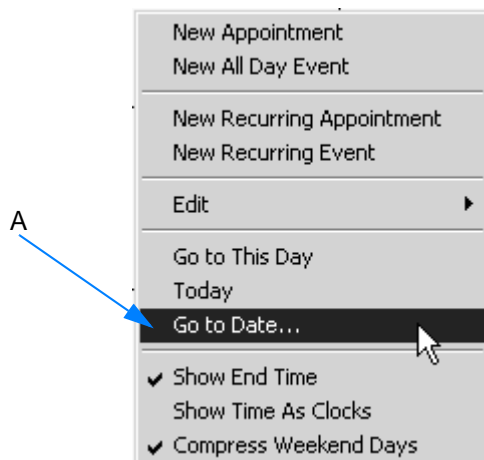
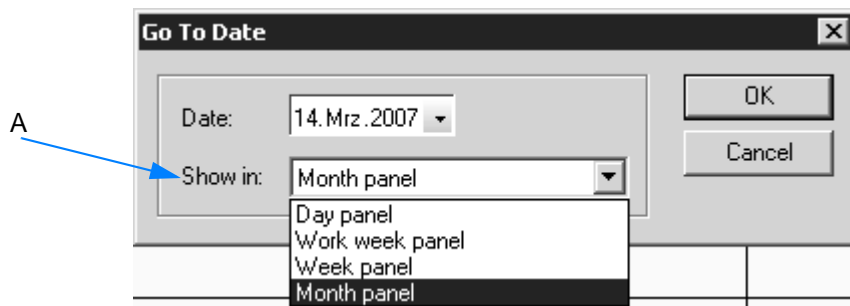

Figure 252: Planner - Pop-up menu
Figure 253: Planner panel selection
- 3 Select the desired planner panel from the *Show in* drop-down list (A in figure 253). To undo the setting made select the *Go to Date* command (A in figure 252) again and change the panel, accordingly.
To change these default settings remove the check mark in front of the respective command in the pop-up menu (see figure 252).
- D If you activate the check box, the entry becomes an event that lasts at least one day. **An all day event does not occupy blocks of time in your planner. Instead, it is displayed at the top of the date which you have specified in the planner.** This kind of event can also be created by using the *New All Day Event* from the pop-up menu (see figure 252).